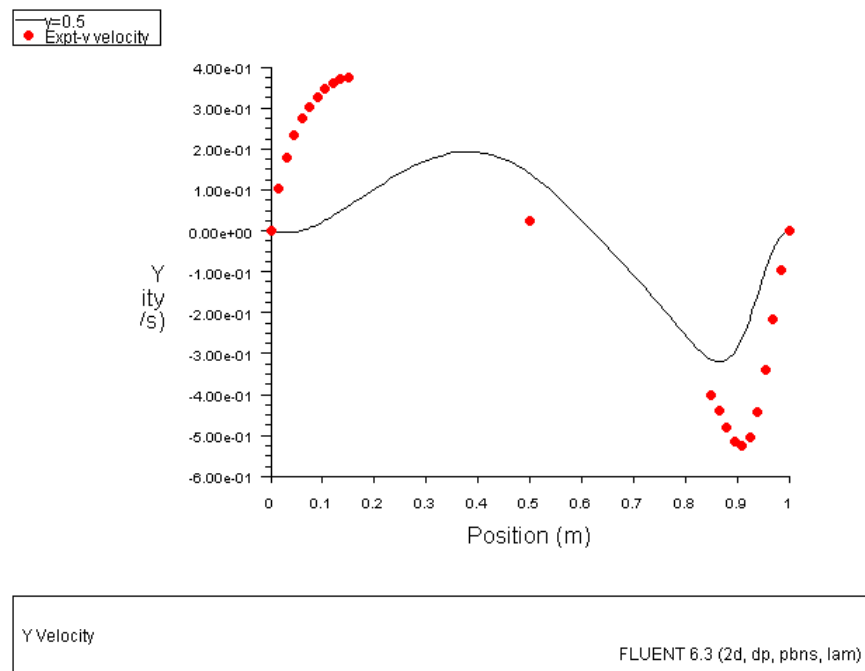

Figure 1.5: Calculated Vs. Experimental Data for Y-velocity on $y=0.5$
- (e) Click **Plot** and close the **Solution XY Plot** panel (Figure 1.5).